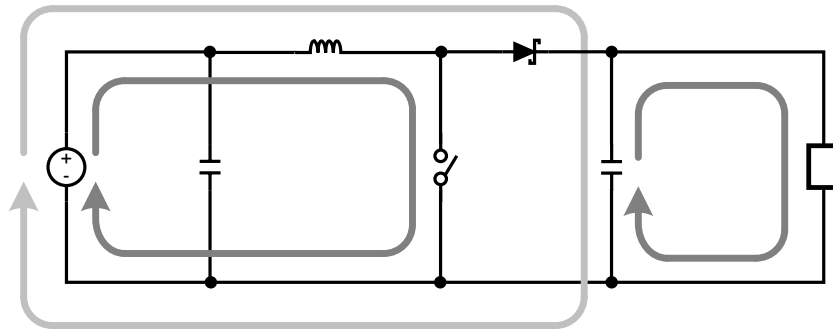

Figure 30. Boost Converter Current Loops
2. The switch node should be just large enough to connect all the components together without excessive heating from the current it carries. The LM5022-Q1 (boost converter) operates in two distinct cycles whose high current paths are shown in Figure 30:
The diagram of Figure 30 is useful for analyzing the flow of continuous current vs. the flow of pulsating currents. The circuit paths with current flow during both the on-time and off-time are considered to be continuous current, while those that carry current during the on-time or off-time only are pulsating currents. Preference in routing should be given to the pulsating current paths, as these are the portions of the circuit most likely to emit EMI. The ground plane of a PCB is a conductor and return path, and it is susceptible to noise injection just as any other circuit path. The continuous current paths on the ground net can be routed on the system ground plane with less risk of injecting noise into other circuits. The path between the input source, input capacitor and the MOSFET and the path between the output capacitor and the load are examples of continuous current paths. In contrast, the path between the grounded side of the power switch and the negative output capacitor terminal carries a large high slew-rate pulsating current. This path should be routed with a short, thick shape, preferably on the component side of the PCB. To keep the parasitic inductance low, multiple vias in parallel should be placed on the negative pads of the input and output capacitors to connect the component side to the ground plane. Vias should not be placed directly at the grounded side of the MOSFET (or  $R_{SNS}$ ) as they tend to inject noise into the ground plane. A second pulsating current loop is the gate drive loop formed by the OUT and VCC pins, Q1,  $R_{SNS}$  and capacitor  $C_F$ . These loops must be kept small.